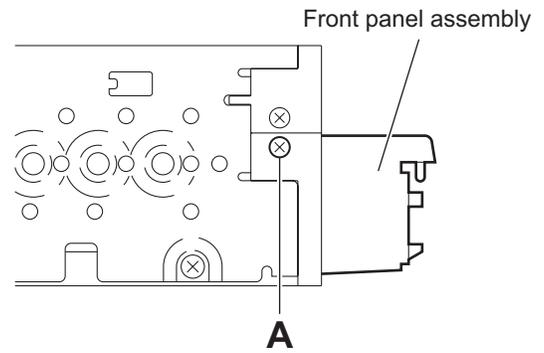

Fig.2
### 3.1.2 Removing the front panel assembly (See Fig.2 to 4)
- From the both sides of the main body, remove the two screw **A** attaching the front panel assembly. (See Figs.2 and 3)